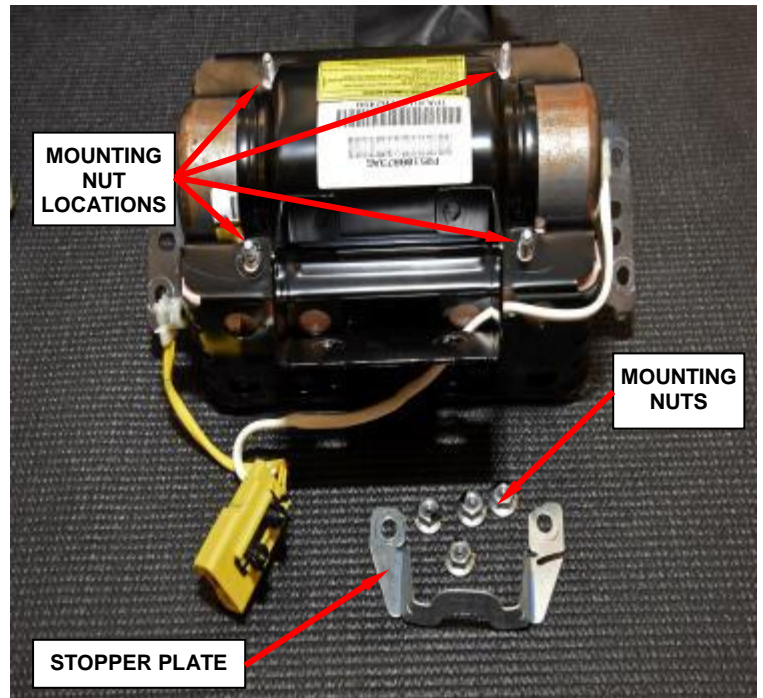

Figure 41 – Mounting Nuts and Stopper Plate
- e. Remove and **discard** the four inflator mounting nuts (Figure 41).